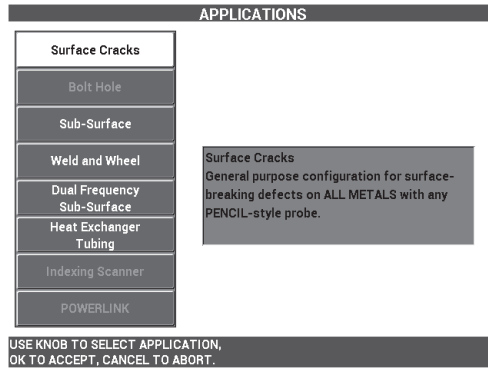

Figure 5-54 The Surface Cracks application
- Press the ADV SETUP menu key () once, and then select **APPL SELECT** (A key) to open the application selection menu. Select **Surface Cracks** with the knob, and then press  to accept (see Figure 5-54 on page 167).